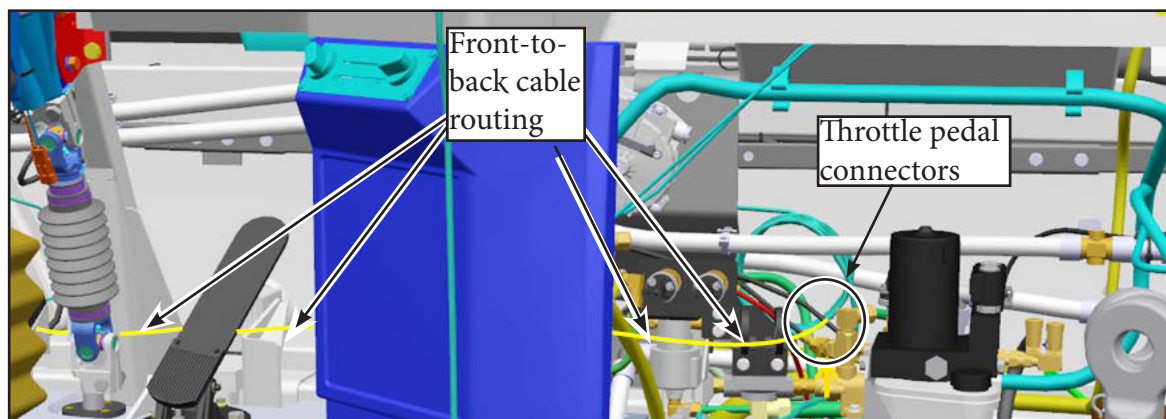

Figure 20 - Front-to-Back Cable Routing
- 2.7. Route the front to back cable wire kit past the throttle pedal towards throttle pedal connectors (see Figure 20).